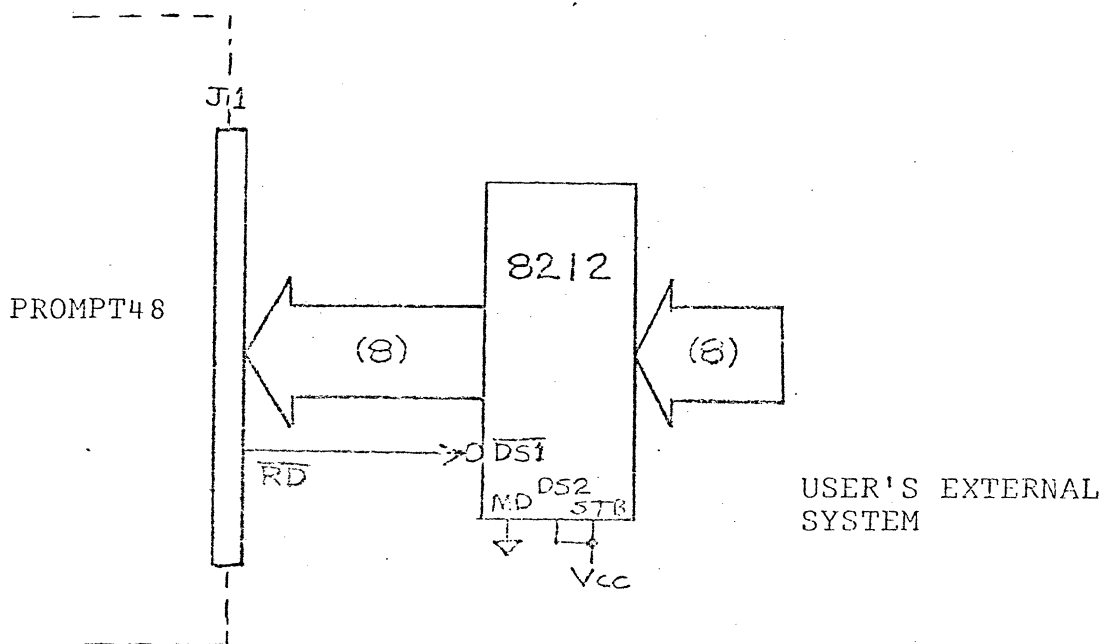

Figure 1 - Strobed Data Input
- 3) STROBE THE DATA ONTO THE BUS WITH THE \overline{RD} LINE (Figure 1)